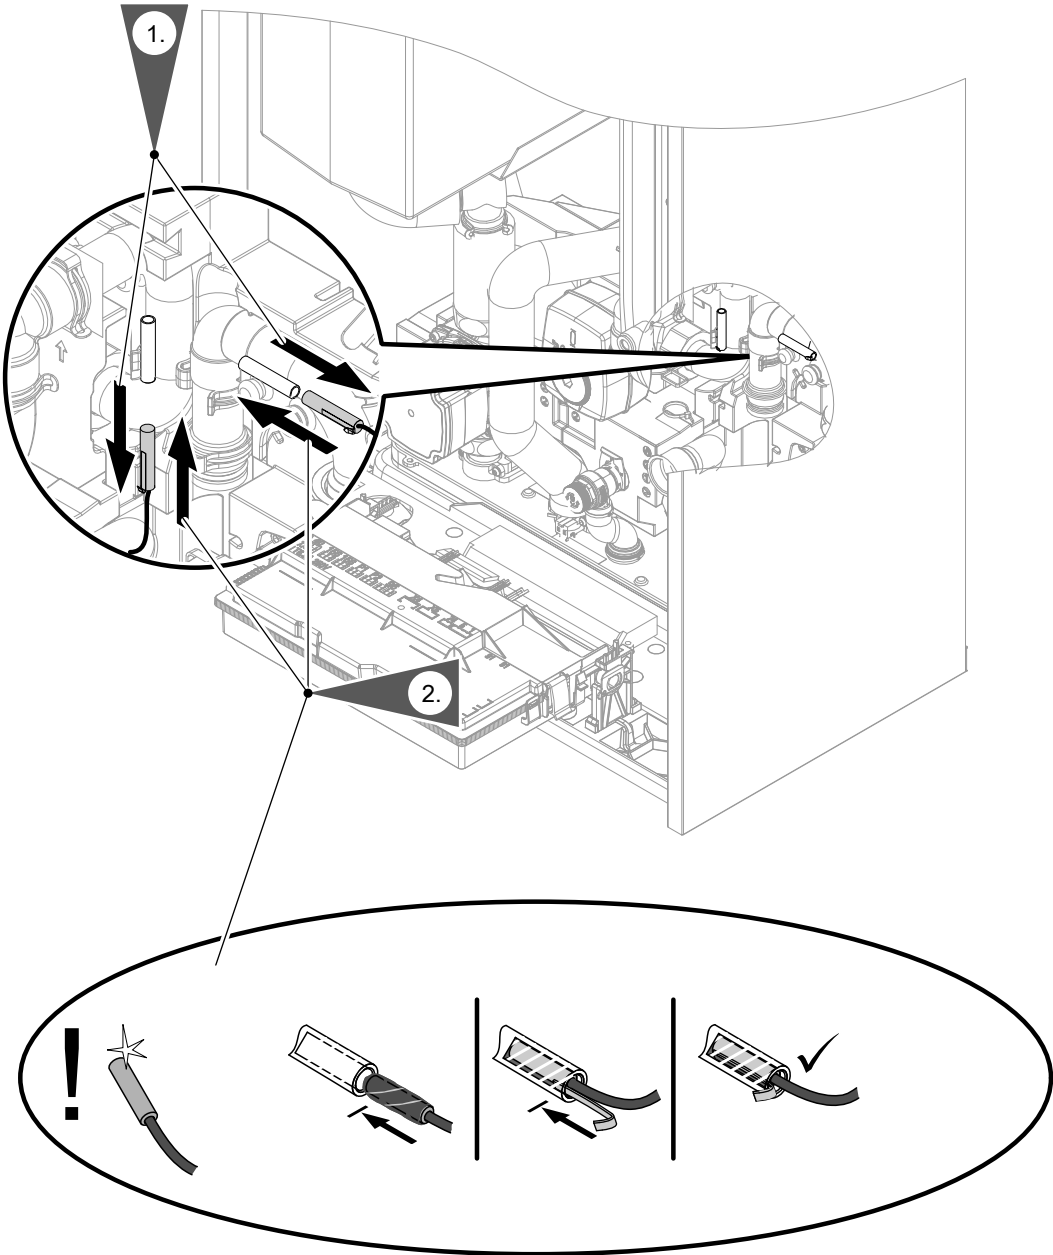

Fig. 92
- Secondary circuit temperature sensors: See Fig. 92 and 93.